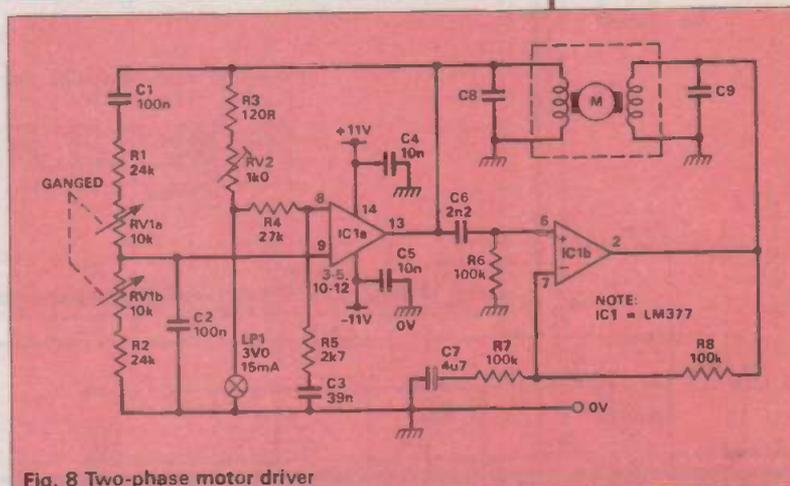

Fig. 8 Two-phase motor driver
Two-phase (AC) motors are synchronous machines and low-voltage versions are sometimes used as precision phonograph turntable drivers. Figure 8 shows a circuit that can drive 8R two-phase motor windings at up to 3W each, at frequencies between 45Hz and 65Hz. The circuit is designed around an LM377 dual 3W audio power amplifier IC, driven from a split supply.